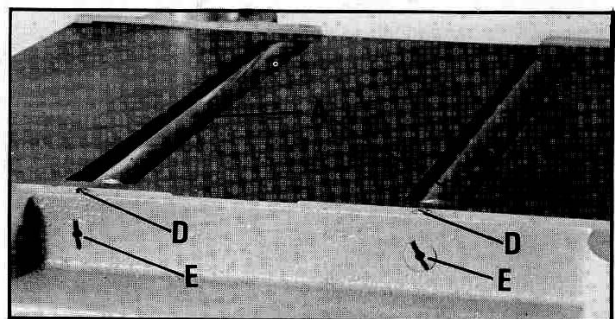
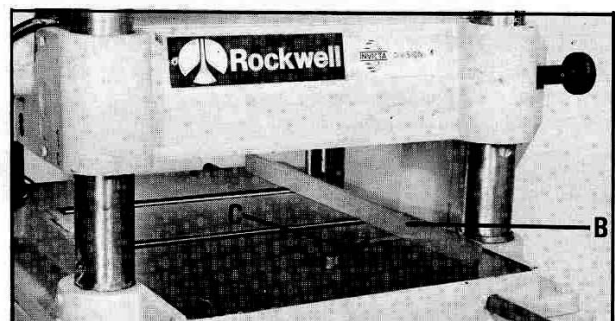

Fig. 57
Fig. 58
Your planer is supplied with two table rolls (A) Fig. 57, which aid in feeding the stock by reducing friction and turn as the stock is fed through the planer. It is not possible to give exact dimensions on the proper height setting of the table rolls because each type of wood behaves differently. As a general rule, however, when planing rough stock the table rolls should be set HIGH and when planing smooth stock the table rolls should be set LOW.
2. Lay a straight edge (B) Fig. 58, across both rolls and with a feeler gage (C) as shown, adjust height of table rolls by loosening set screws (D) Fig. 57, and turn screws (E) to raise or lower table rolls (A). Table rolls must also be adjusted on the opposite end of table in the same manner. The table rolls must always be set parallel to the table.